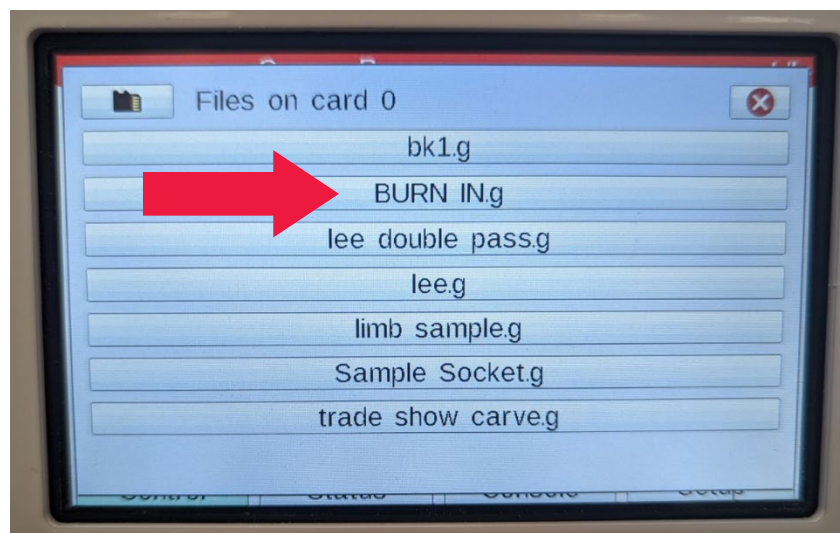

Figure 71: Select G-code
2. Install the mandrel with the pre-inserted foam blank into the chuck of the Carver PRO-S™. The mandrel is properly installed when the engraved line at the left side of the mandrel is flush with the end of the chuck. Refer to Figure 71.